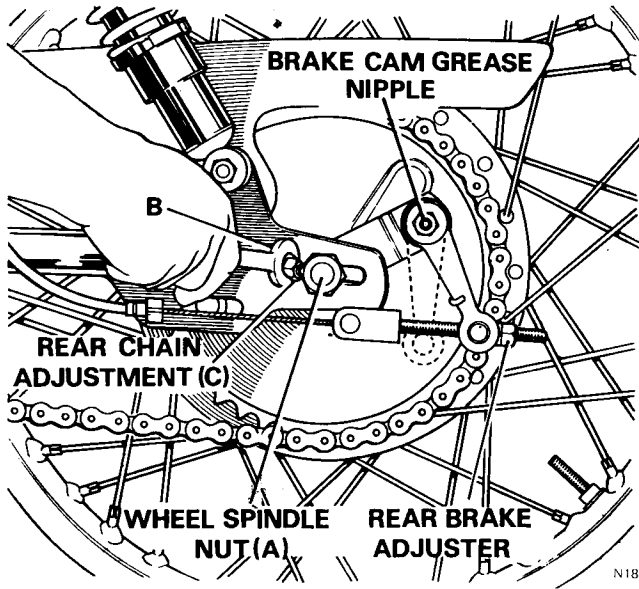

Fig. H4 Rear wheel features
- 3 Disconnect the rear brake cable rod by removing the adjuster nut (see *Fig. H4*) and pulling the rod through the brake expander lever roller.